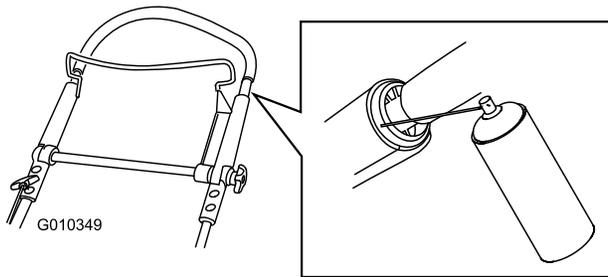

Figure 43
1. Spray the outer plastic end of the inner handle (Figure 43).